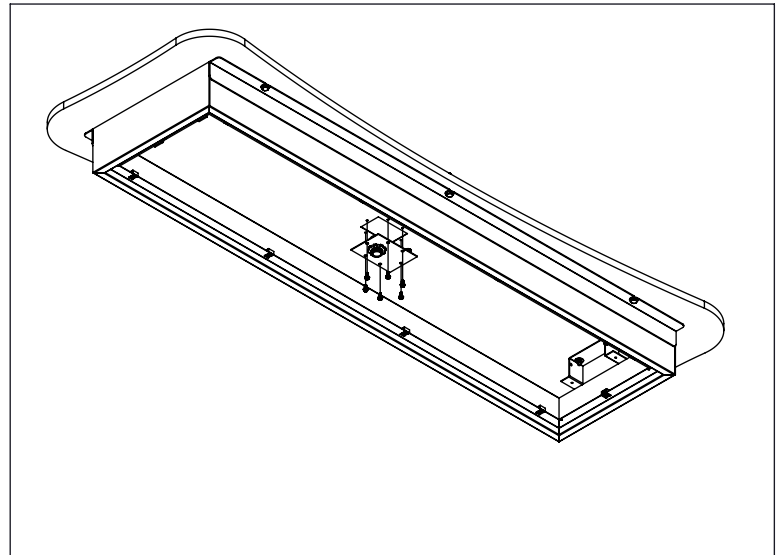

Figure 6
7. Reattach access cover panel, LED gear tray, and frame assembly (Figs. 6, 7, and 8, respectively) using original fasteners.